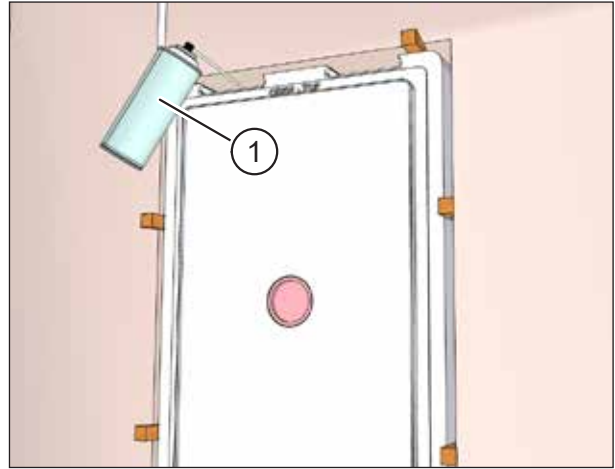

Fig. 24: Filling gaps around the wall box with foam
- ▶ Fill the gaps between the wall box and wall breakthrough all around and continuously with expanding foam (item 1 in Fig. 24) or using another suitable filling material.